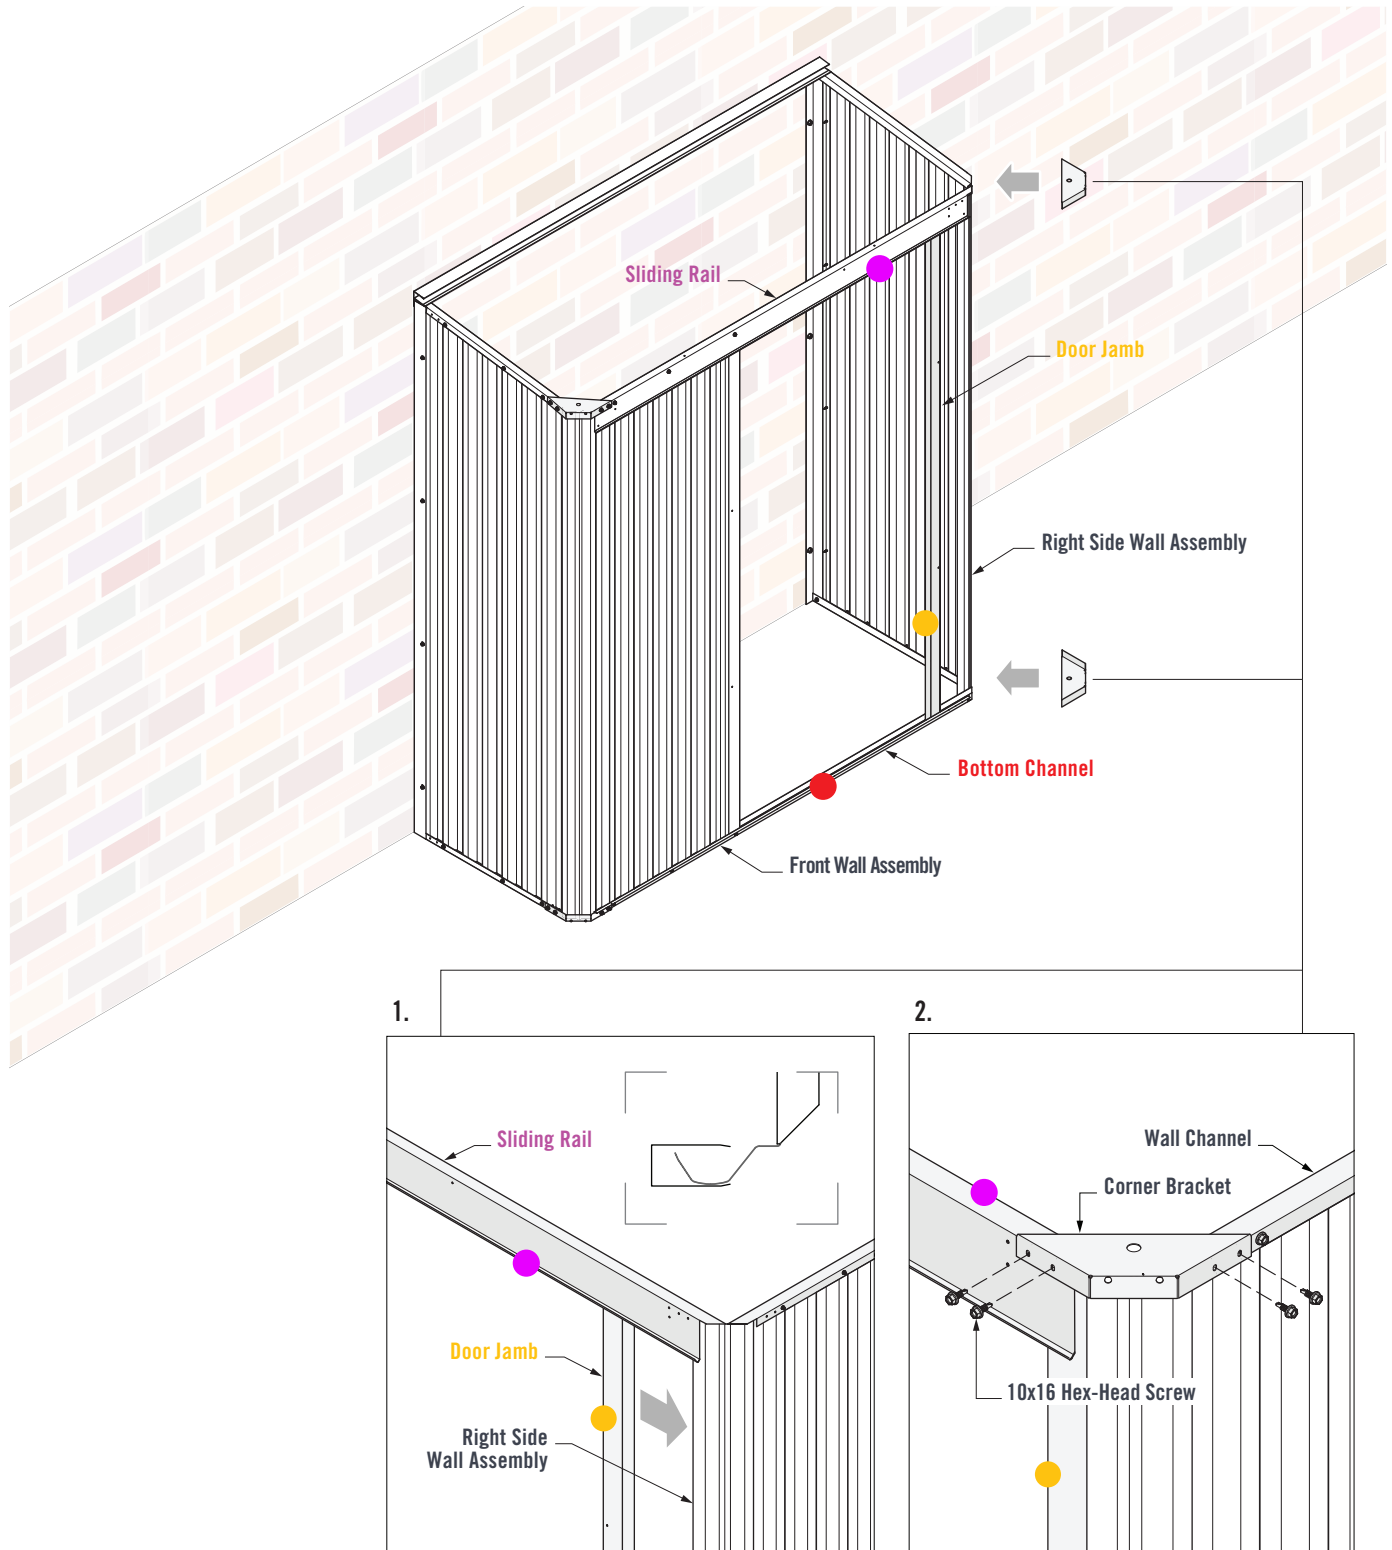

FIGURE 7.1
Fit the Front Wall Assembly over the Right Side Wall Sheet. Ensure the Right Side Wall Sheet fits into the **Sliding Rail** and **Bottom Channel** (Figure 7.1).
1. Fit the **Door Jamb** over the corner of the Right Side Wall Sheet (Figure 7.1).